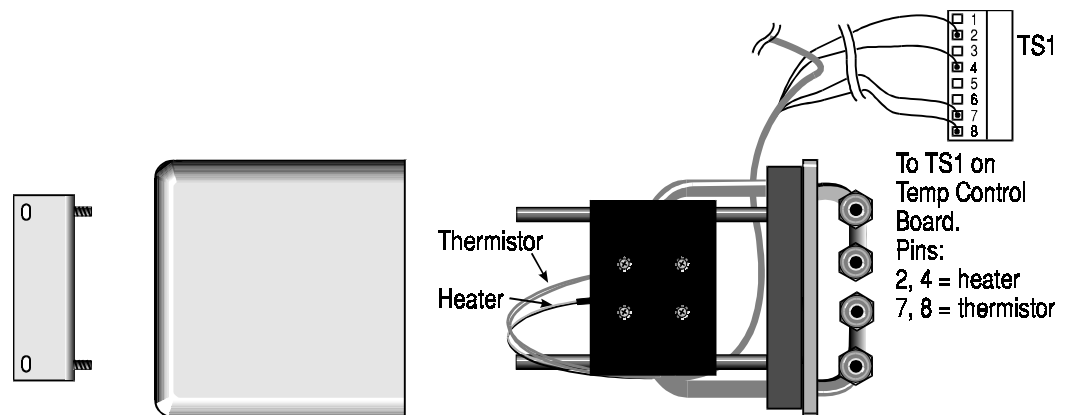

Figure 5-7: Removing the Heater and/or Thermocouple
- a. Refer to Figure 5-7, which illustrates removal of the Thermistor and/or Heater from the Cell Compartment. Exploded view is as seen from the bottom of the Cell Block.